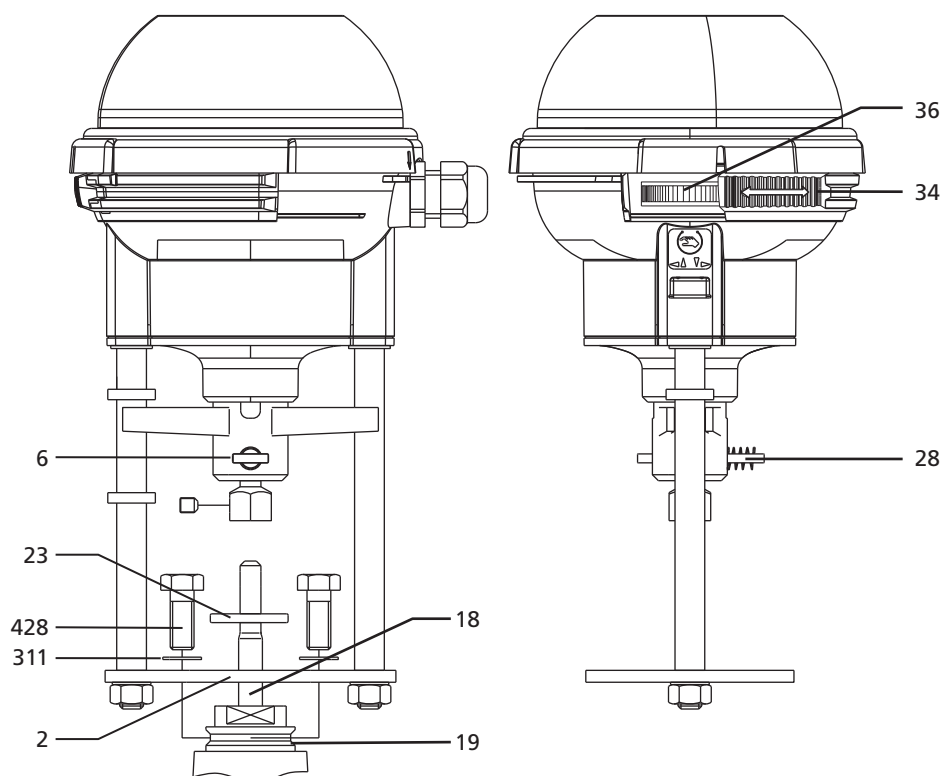

Fig 4.2 Mounting the linear actuator on the valve
- 1 Place the actuator with crossbeam (2) on the valve neck (19). See Fig 4.2.
- 2 Insert the C-frame (28) and, using a mounting aid, pull the valve stem upwards (18) (23) until the valve stem (18) locks inside the clutch (6).
- 3 Fix the crossbeam (2) of the actuator with the help of screws (428) spanner width 13 and lock washers (311) on the valve neck (19).